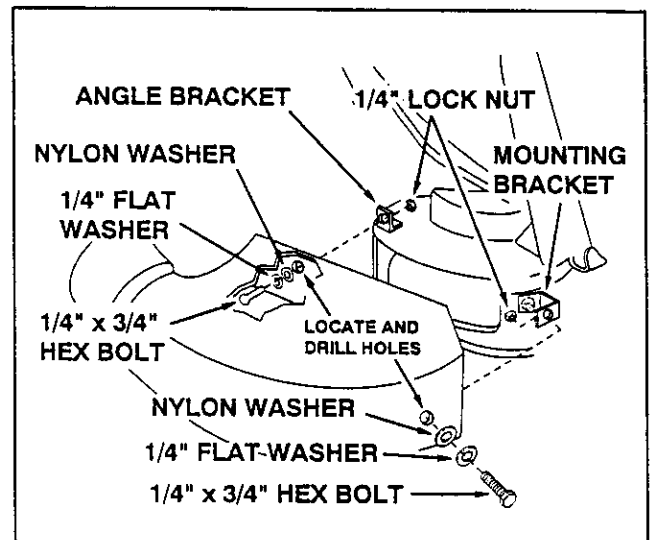

FIGURE 35
- Fasten the angle bracket and the mounting bracket to the mower deck as shown in figure 35. Use two 5/16" x 3/4" carriage bolts, 5/16" flat washers and 5/16" lock nuts. The bolt heads go on inside of mower deck.
- Drill two 5/16" diameter holes in the deck adapter that will align with the holes in the angle bracket and the mounting bracket. Assemble the deck adapter to both brackets using two 1/4" x 3/4" hex bolts, 1/4" flat washers, nylon washers and 1/4" lock nuts. See figure 35.